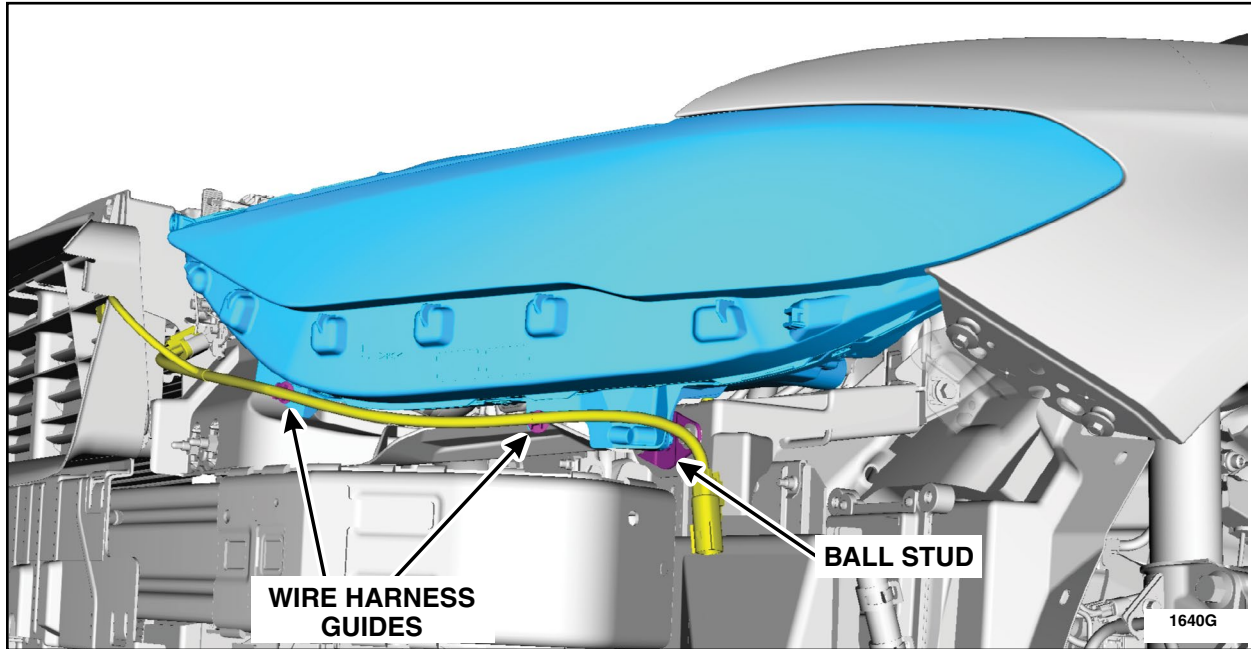

FIGURE 8
9. Remove both headlamp assemblies (See Figure 8):
11. Install both headlamp assemblies onto the ball stud (See Figure 8):
- a. If equipped, install the wiring harness guides to the headlamp assemblies. See Figure 8.